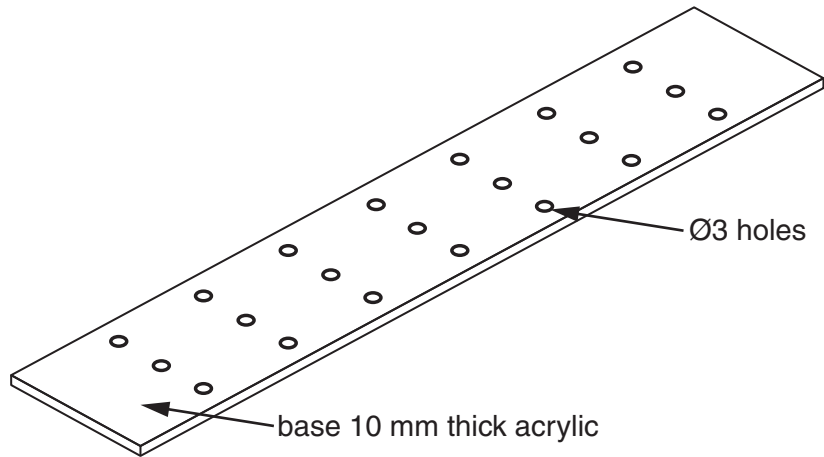

Fig. 14
- (c) Fig. 14 shows the base of the plant holder with Ø3 holes drilled to allow for drainage.